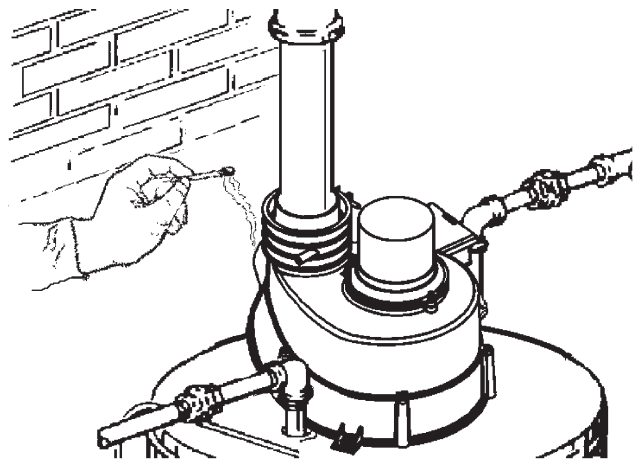

FIGURE 11
- C. "CHECKING THE DRAFT." Operate the water heater for several minutes and check to see if it is venting properly by passing a lit match or paper near the opening of the Air Mixing Box (See figure 11). If the draft is proper, the match flame will be drawn into the Air Mixing Box. If not, the combustion products will tend to extinguish the flame. If an improper draft exists, do not operate the water heater until proper adjustments or repairs are made to provide adequate draft through the gas vent.